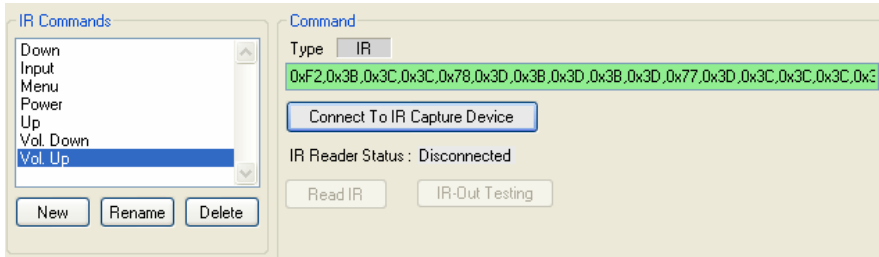

Figure 4: IR Command Area Window
9. Click the Read IR button (see Figure 4) to read the command.
The IR command appears, as illustrated in Figure 4.
3. In the Command Area, click the Connect to IR Capture Device button (see Figure 4), select the port and click OK.
4. Click the IR-Out Testing button (see Figure 4).